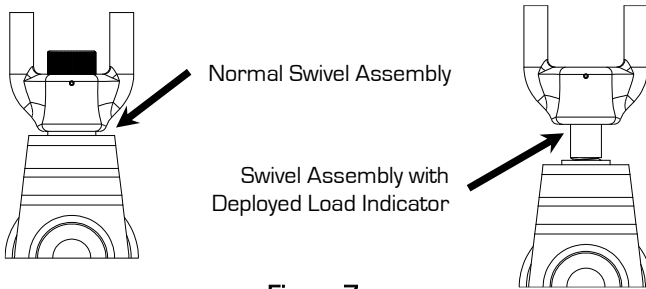

Figure 7
1. Prior to each use, the worker must inspect the F.L.O. Class 2 Self Retracting Lanyard for any physical damage, wear, corrosion, or malfunctioning parts. Verify that the load indicator is not deployed by checking the load indicator on the snap swivel (Figure 7). **Any F.L.O. Class 2 Self Retracting Lanyard that has a deployed load indicator has seen a fall-arrest load and must be removed from service, mark "UNUSABLE", DO NOT USE until it has been inspected and recertified by an authorized Fall Safe service center.**